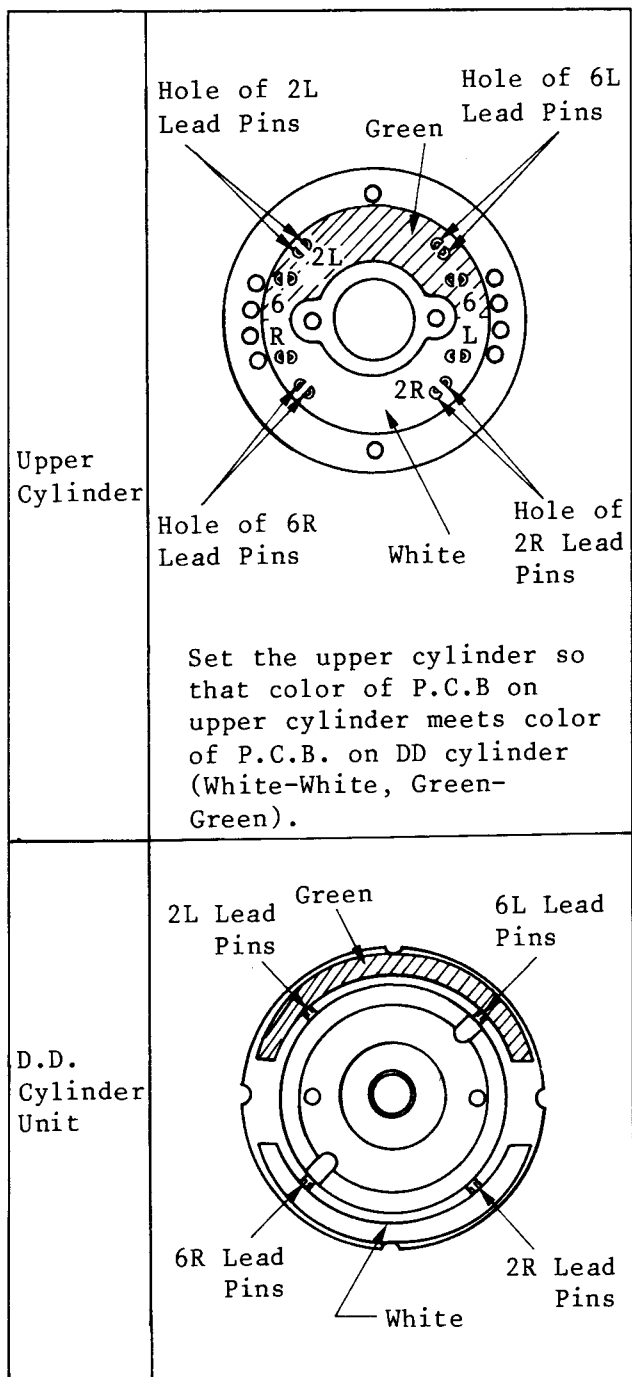

Fig. M10-3 Replacement of Upper Cylinder Unit
4. Install new Upper Cylinder Unit carefully so that the 8 lead pins are properly matched on the Head Relay Board. For details on the installation position, refer to Fig. M10-3.